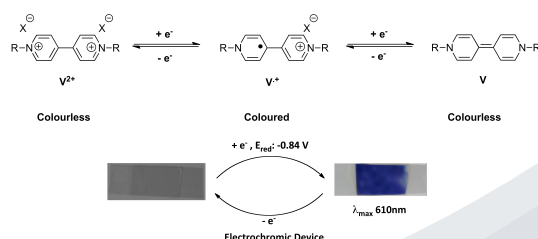

Figure 2: (Top) The redox governed equilibria of the viologen chromophore. (Bottom) Fabricated ionogel device exhibiting transparent and darkened states.
- The ECD exhibited the transparent (V^{2+} , oxidised) and coloured ($V^{•+}$ reduced) states (Figure 2, bottom).